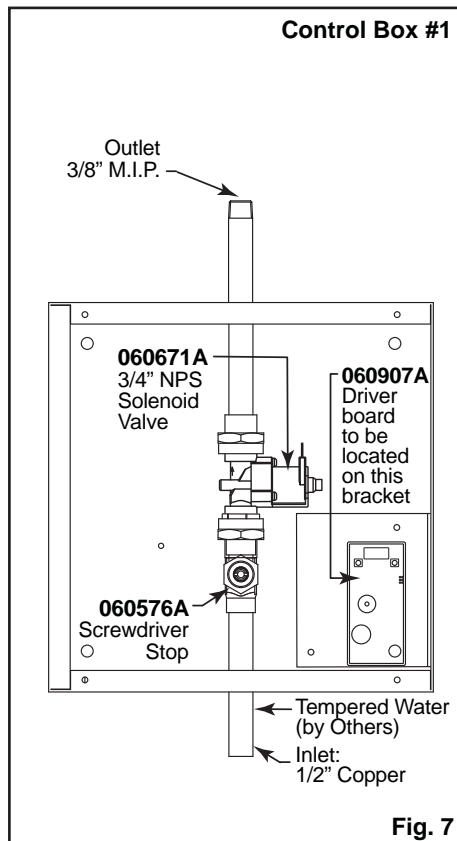
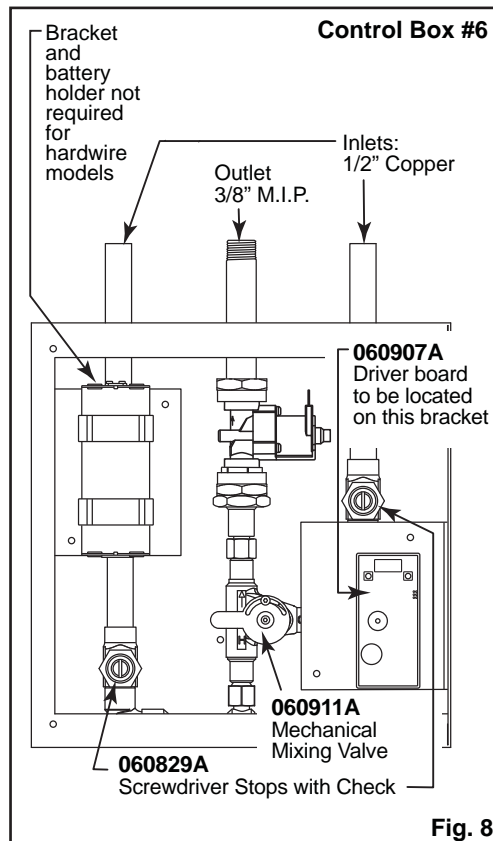
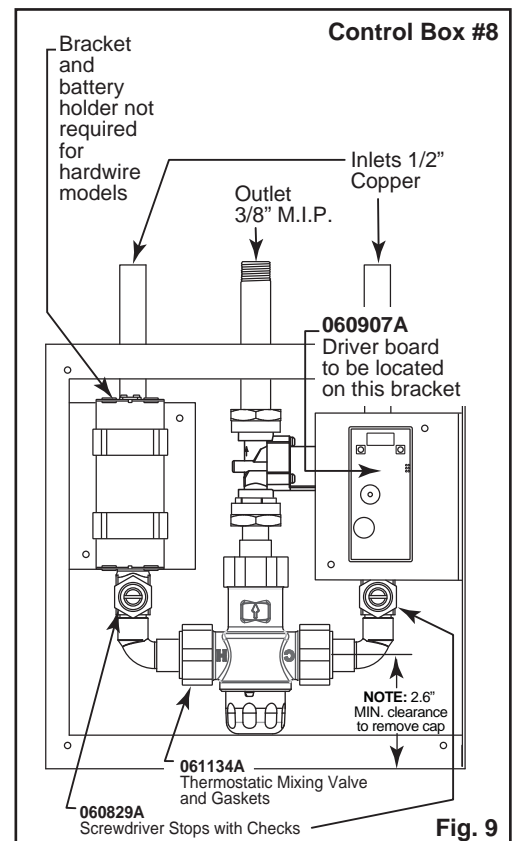

Fig. 7
Fig. 8
Fig. 9
Install sink and connect drainage to rough in. See applicable **Fig. 7, Fig. 8 or Fig. 9**. Please note that the connection tube and fittings are supplied by the **installer** to connect the 3/8" MIP at the box outlet and compression joint for 3/8" O.D. Soft copper tube at the spout. Connect water supply through to spout. Assure supply lines are completely flushed and free of debris.
- 4C** If **Mechanical Mixing Valve** (060911A) (**Fig. 8**). Adjust setting to the desired temperature and lock in place by tightening the vandal resistant screw.
If **Thermostatic Mixing Valve** (**Fig. 9**). To adjust the mixed outlet temperature of the valve, remove the cap to gain access to the adjusting spindle. The spindle should be rotated towards the "C" side to reduce the temperature and towards the "H" side to increase the temperature - until the desired set point is reached (refer to Fig. 11).